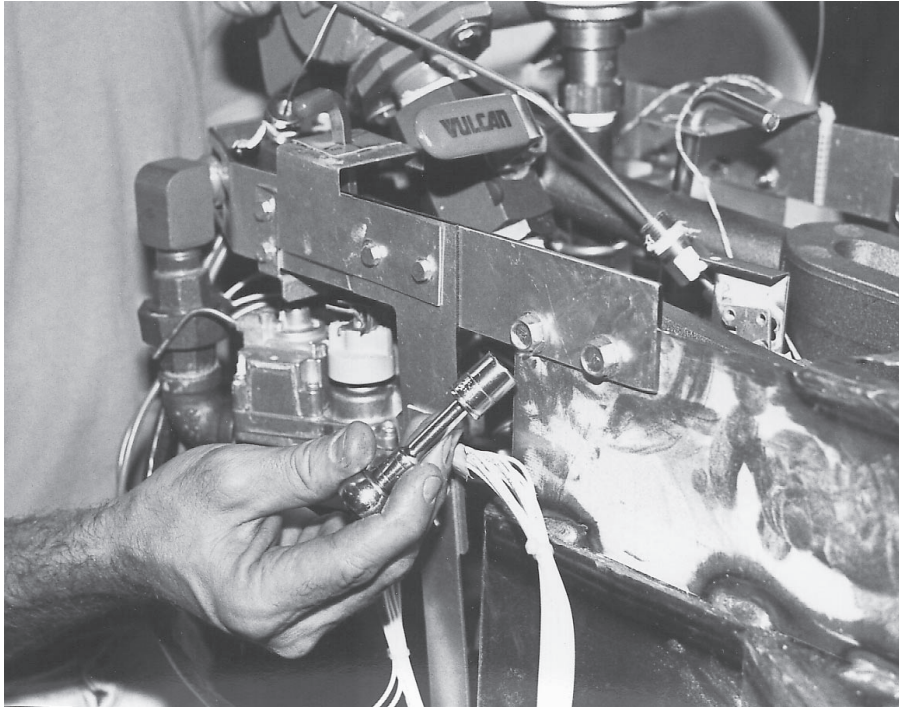

Fig. 87
25. With a 1/2" wrench remove (4) bolts securing the manifold bracket to the tank assembly. (Fig. 87)